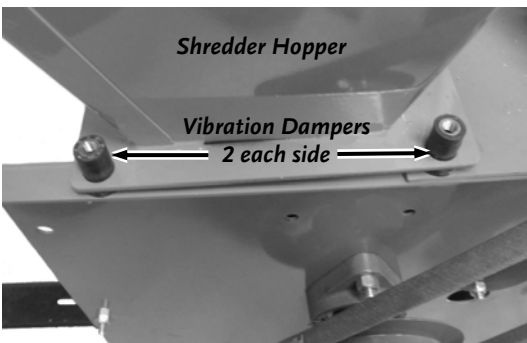

Figure 27
3. Using two 1/2" Wrenches, remove the Shredder Hopper (**Figure 27**) by removing the four (4) Bolts (hold the Nuts on top while backing out the Bolts) from the Vibration Dampers. Note that the Rear Bolts are 1-1/2" and the Front Bolts are 1-1/4" long. Lift the Hopper off with the Vibration Dampers in place (**Figure 27**).